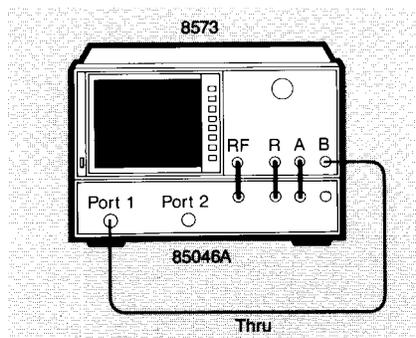

Figure 13. Setup for calibration to input B
1. Connect the instrument as shown in Figure 13. Preset the instrument. Channel 1 will display the frequency for which 1 dB gain compression first occurs. Channel 2 will display amplifier output power to allow easy determination of the 1 dB gain compression output power.
3. Since the output power of an amplifier is important, the loss through the test set between the amplifier output and the receiver input needs to be characterized. To do this, first perform a response calibration on channel 2 as shown in Figure 13.
4. Since the output power of the amplifier is important, the loss through the test set between the amplifier output and the receiver input needs to be characterized. To do this, first perform a response calibration on channel 2 as shown in Figure 13.